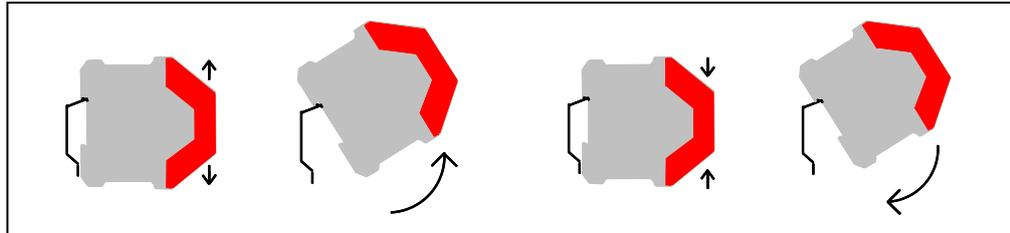

Figure 3: DIN Rail Mounting Detail
6. Mount new device to the DIN rail (see Page 5, Figure 3).